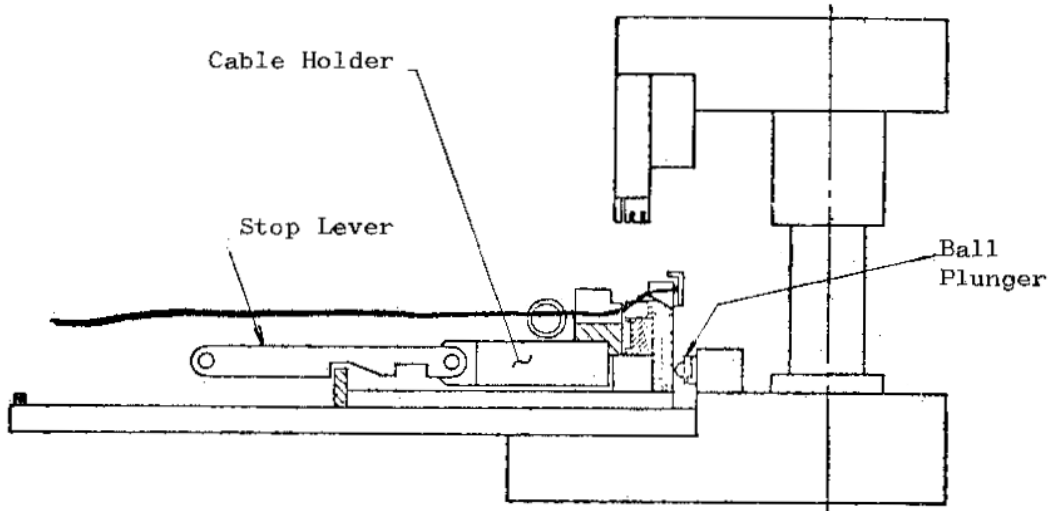

Fig. 7
- (5) Transfer cable holder to under the press ram, pushing it by stop lever, until it bumps against ball plunger where the location of cable holder is regulated. (See Fig. 7.)